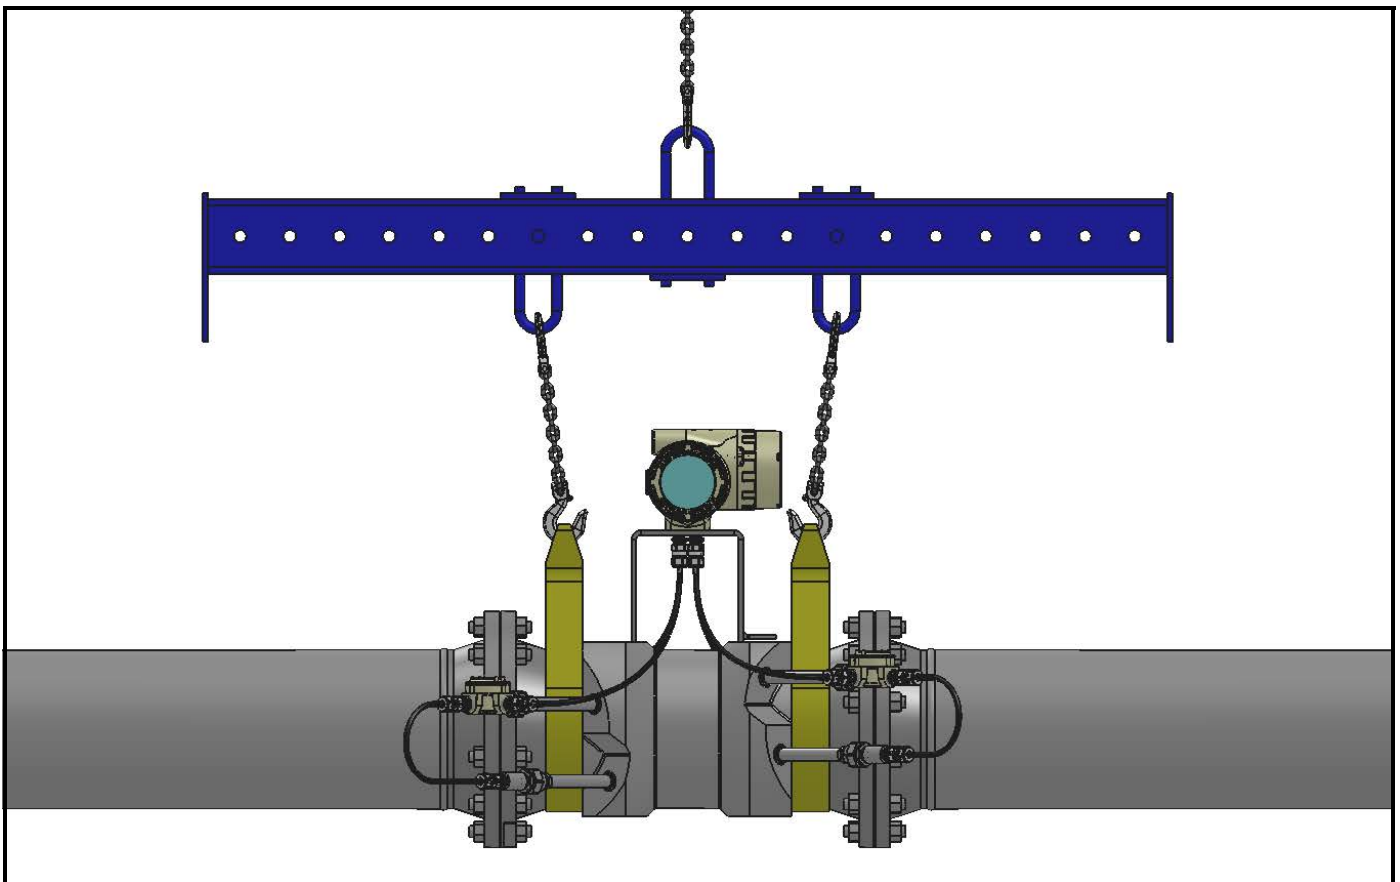

Figure 9: Lifting Strap Locations
CAUTION! To avoid possible strain, refer to the Sentinel LCT label for the assembly weight, use a properly-rated lifting assembly, and place the lifting straps in the indicated locations. See Figure 9 below.
- Make sure the **Sentinel LCT** is oriented with the flow transmitter in a vertical position at the top (see Figure 9 below).